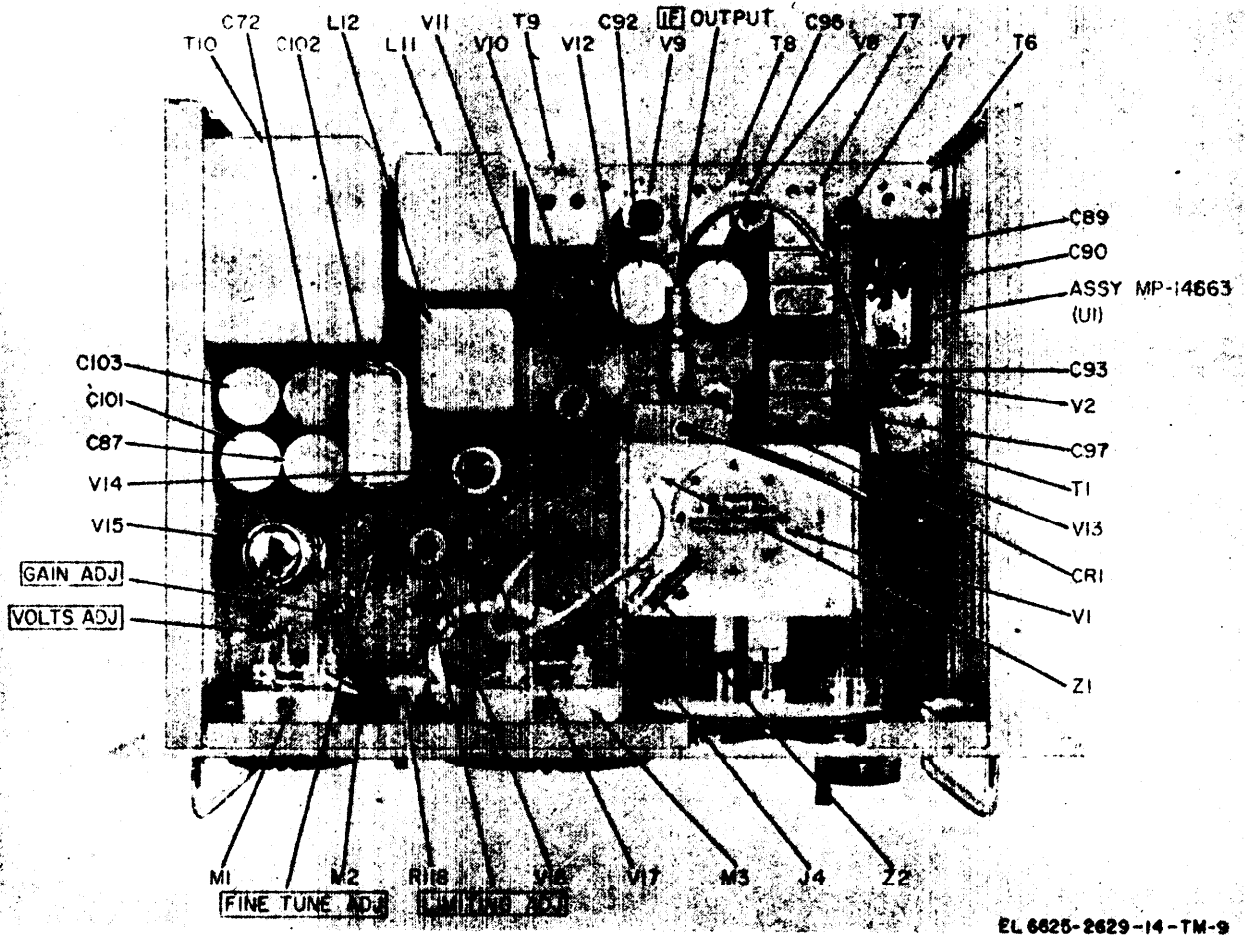

Figure 7-1. Modulation meter chassis, parts location, top view.
Parts locations are shown on figures 7-1, 7-2, and 7-3. A schematic diagram for the overall modulation meter is contained on figure FO-2. The overall wiring diagram is figure FO-3.
(1) Disconnect the rf cable at the if input mixer connection (fig. 7-1).
(2) Connect the am generator output to this cable. (Be sure that the modulation selector switch is in the OFF position.)
(3) Tune the am generator to 12 MHz and increase the output until the LIMITING meter indicates in the black area.
(4) Check the indication on the CARRIER SHIFT meter. It should read nearly zero with TUNE-FINE TUNE switch in FINE TUNE position. If it does not read zero, tune the am generator until it does.
(5) If LIMITING and CARRIER SHIFT meter readings are indicated, the oscillator-probable is faulty.
(6) If the LIMITING meter reading cannot be indicated, the trouble is probably in the if amplifiers. If the if amplifiers are suspected of being fault y, use the test method given in c below.